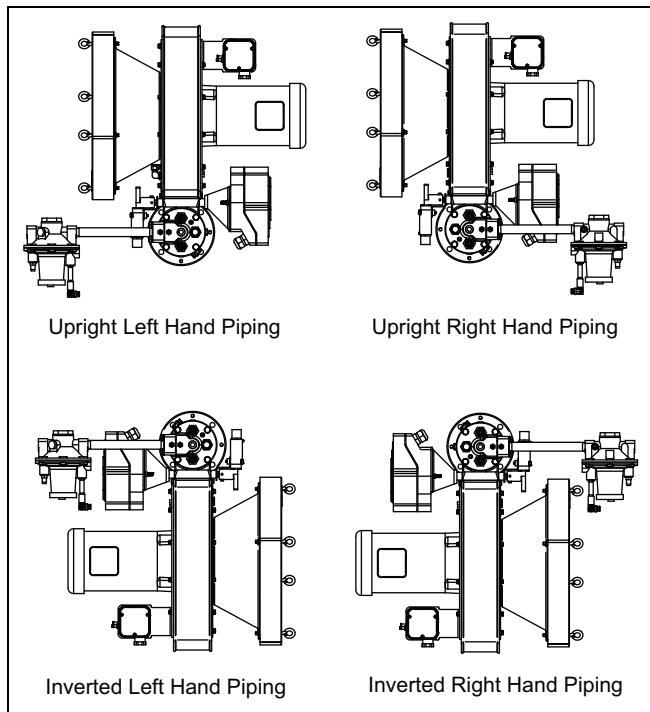

Figure 3.1. Configuration Selection and Motor Orientation Choice
- **Fuel Type:** Vary calorific value, specific gravity and WOBBE index will affect burner performance. If any of these parameters change more than ±5% from Figure 3.1 contact Heatflame to check the suitability of the fuel. Performance data, dimensions and specifications are given for each RM in Datasheets Series No.110.